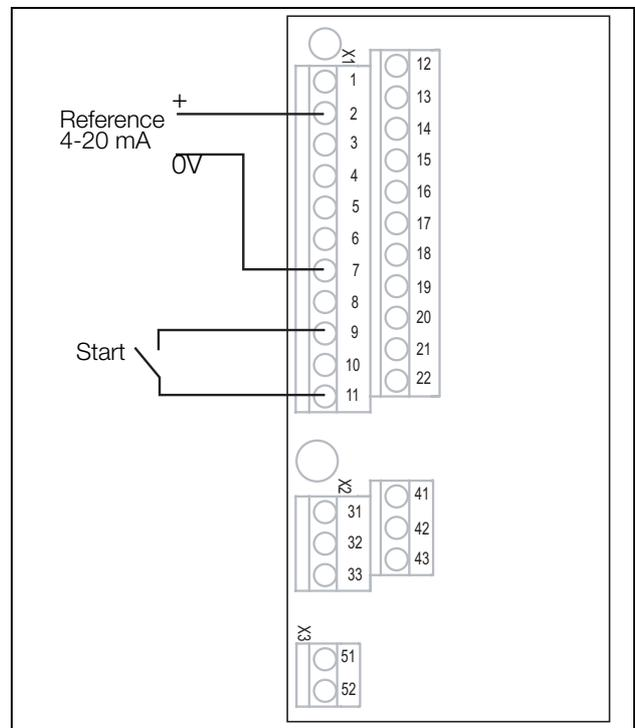

Fig. 68 Wiring
2. Connect a reference value between terminals 7 (Common) and 2 (AnIn 1) as in Fig. 68.
3. Connect an external start button between terminal 11 (+24 VDC) and 9 (DigIn2, RUNR) as in Fig. 68.
15. Connect digital and analogue inputs/outputs as in Fig. 68.